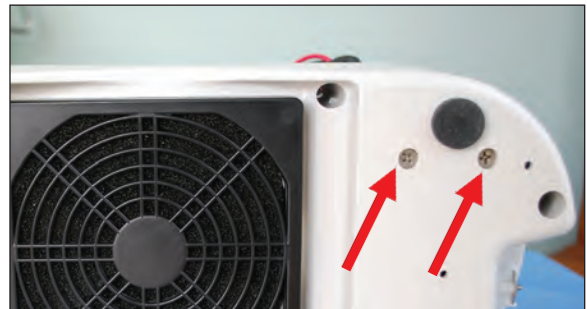

Figure 66 - Step 6 Unscrew pump bracket from base enclosure
8. Remove pump mount bracket from the base by removing two Phillips screws (Figure 66). Do not discard the screws.